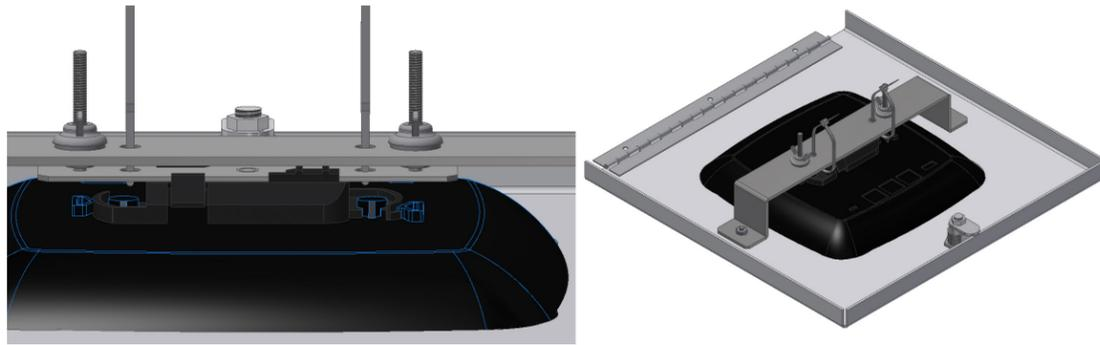

Figure 6
**Step 6** – For added security, attach wire ties to the two inner holes of the bracket and the t-bar mount. Make sure to securely fasten the wire ties in place (Ref. Figure 6).